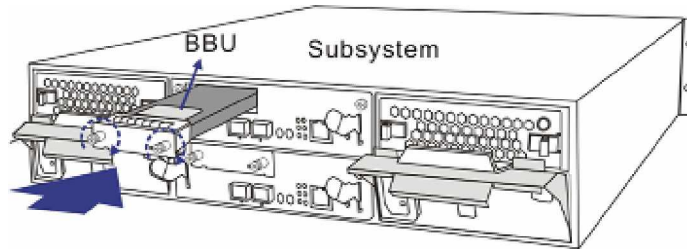

Figure 2-11: Installing the BBU
-  **Step 3.** *Secure the BBU to the subsystem* by fastening the two (2) retention screws on the back of the BBU. (See **Figure 2-11**)